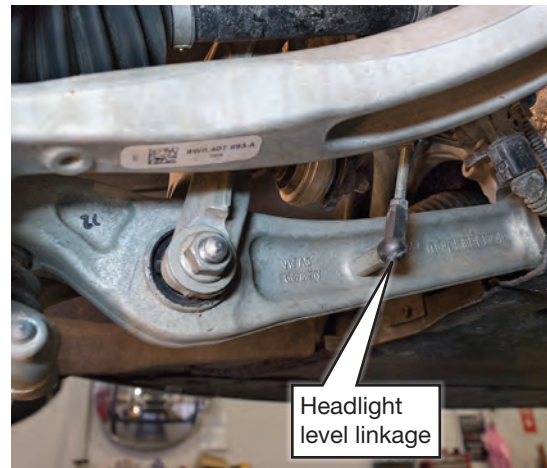

fig. D.2
3. Remove the headlight level linkage (if equipped) (Fig. D.2).